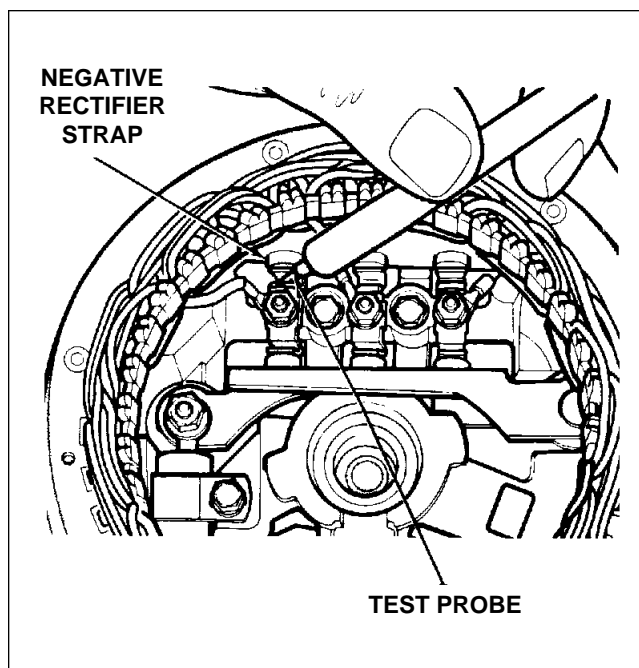

Figure 24-21. Testing Chrysler Alternators
b. Testing Of *Negative* Rectifiers Using C-3829 Tester (Refer to figure 24-21.)
- (1) Connect test lead alligator clip to rectifier end housing.
- (2) Touch metal strap of each negative rectifiers to test probe and note each reading.
- (3) Test indications for negative rectifiers are the same for positive rectifiers except test meter will read on the opposite side of scale.